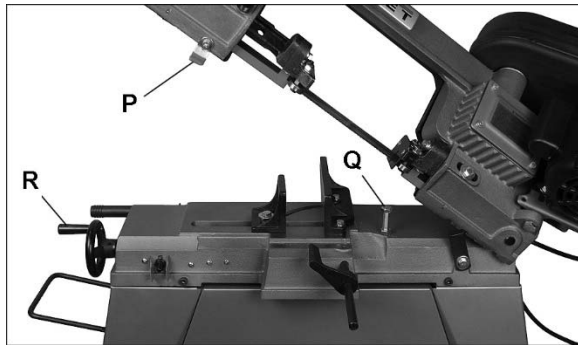

Figure 21
- If saw completes cut but blade continues moving, adjust switch trip (P, Figure 21) downward.
- If blade stops before cut is complete, adjust switch trip (P) upward.
- If blade stops descending and continues running without completing the cut, turn stop bolt (Q) down.
Use handwheel (R, Figure 21) to open and close vise.
1. Raise bow and secure in position using support, as shown in Figure 21.